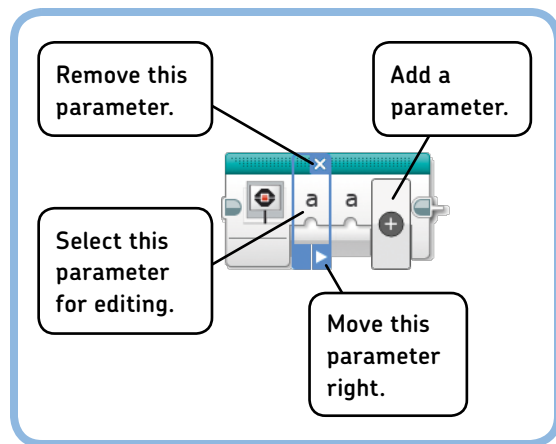

Figure 15-17: Adding, removing, and changing the order of parameters
5. Now, we’ll configure the block’s parameters. Add two inputs by clicking **Add Parameter** twice, as shown in Figure 15-17.